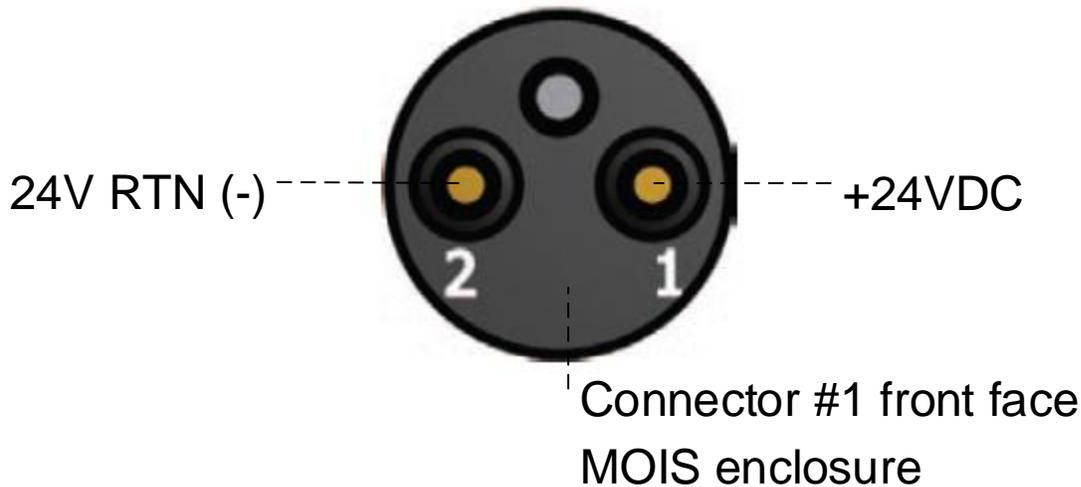

Figure 1 MOIS Power Input Connector
- Unplug the power supply from the 110 VAC outlet, then carefully insert the power cable into Connector #1 (marked on MOIS enclosure and shown in Figure 1). Now, plug the power supply back into the 110 VAC outlet
Appendix A Figure 1 MOIS Gen3 System Level Architecture